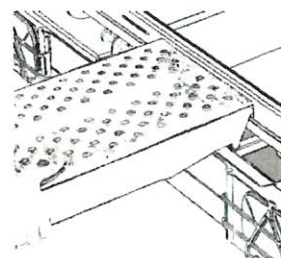

Fig. 14
5. Hook the skid onto the skid bar in the required position (fig 14).